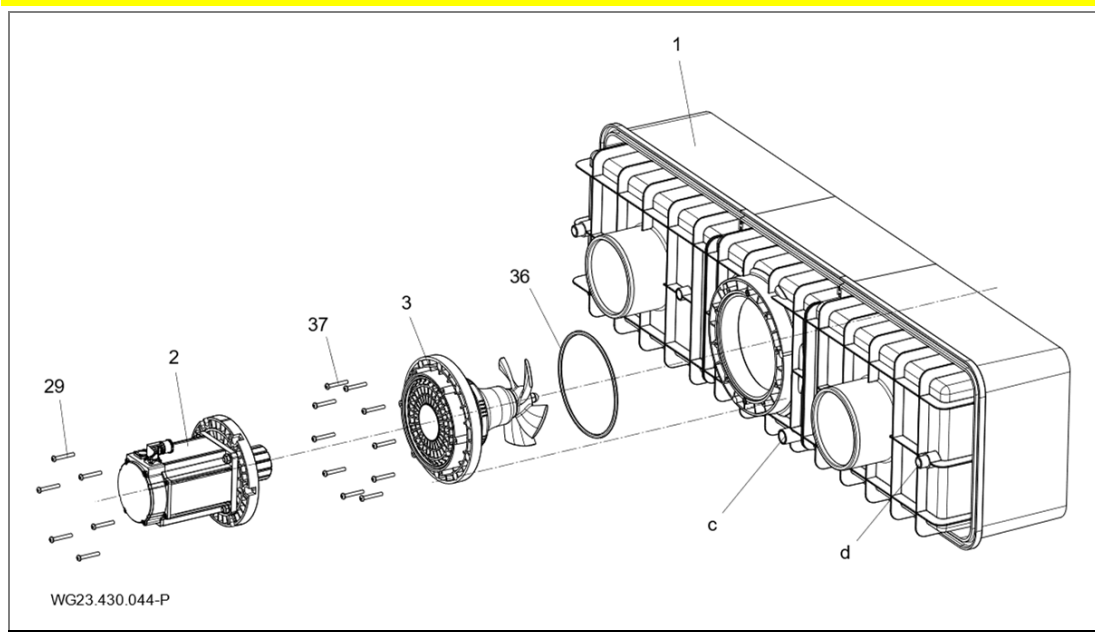

Fig. 15
1. Remove grease from the connection nozzle (d, (Fig. 15)) on the plastic housing (1) and the connection socket of the cable protection tube (12) with PVC-U/ABS cleaner.